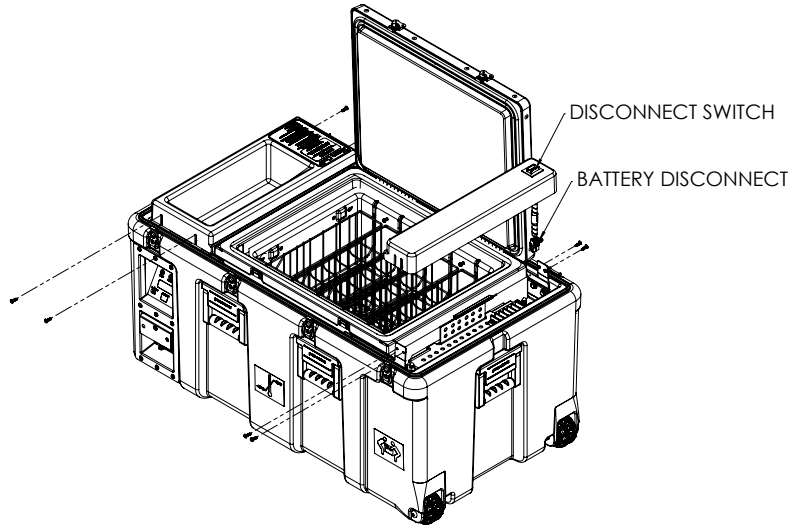

Figure 8. AX56L Battery Access
2. Loosen four screws that hold cover panel in place and remove cover (Figure 8.)